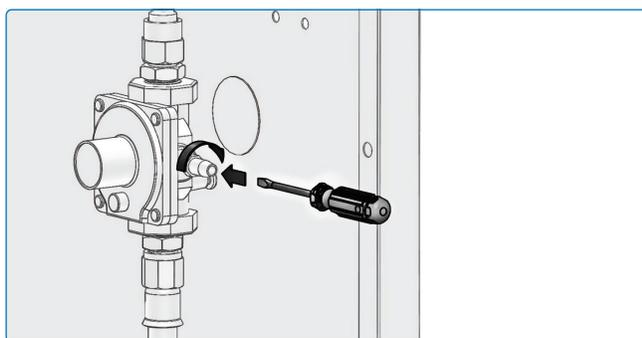

Fig. 8
- The grill is designed to operate at a test point pressure of 1.00 kPa and must be checked after installation by turning all burners on and measuring at the regulator outlet test point provided. Bulk ULPG gas plumbing must supply a pressure of 2.75 kPa to the inlet of the grill (**Fig 8**).